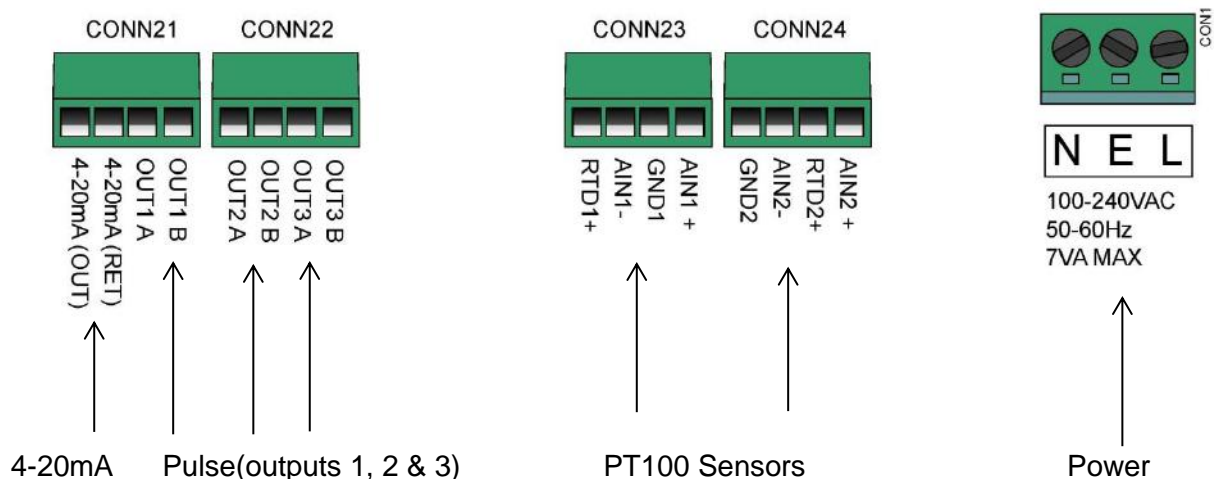

Figure 8 Terminal blocks
The transducer cables attach to sockets on the left side of the terminal block. Other cables enter the instrument through the four cable glands provided and are connected to terminal blocks which are located behind a safety cover (Figure 8).
3. Cut the wires to length, strip back the insulation by approximately 10mm and connect them into the required terminals as described above and identified in Figure 8.
2. Cut the wires to length, strip back the insulation by approximately 10mm and connected to them into the correct power supply terminals identified in Figure 8.